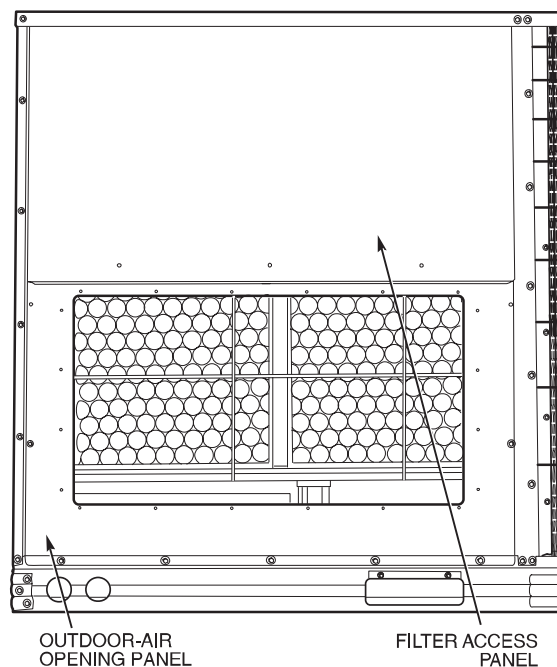

Fig. 11 — Panel Locations
2. Remove filter access panel by raising panel and swinging panel outward. Panel is now disengaged from track and can be removed. No tools are required to remove filter access panel. Remove outdoor-air opening panel. Save panels and screws. See Fig. 11. Remove optional outdoor-air damper hood package from filter section.
- Replace the filter access panel. See Fig. 11. Ensure the filter access panel slides along the tracks and is securely engaged.